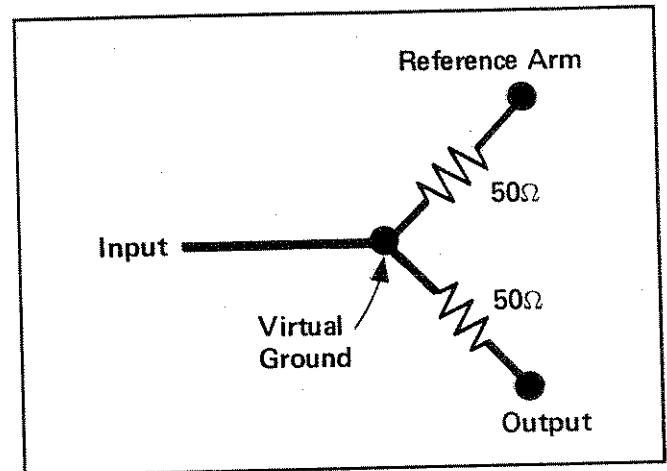

Figure 1. HP 11667B Schematic
14. When the HP 11667B is used in a network analyzer system, the node at the fork of the power splitter is held constant by the leveling action of the network analyzer reference channel (see Figure 1). Because a virtual ground is present at the node, the resistance in each output arm is 50 ohms, giving a 50 ohm matched output impedance.